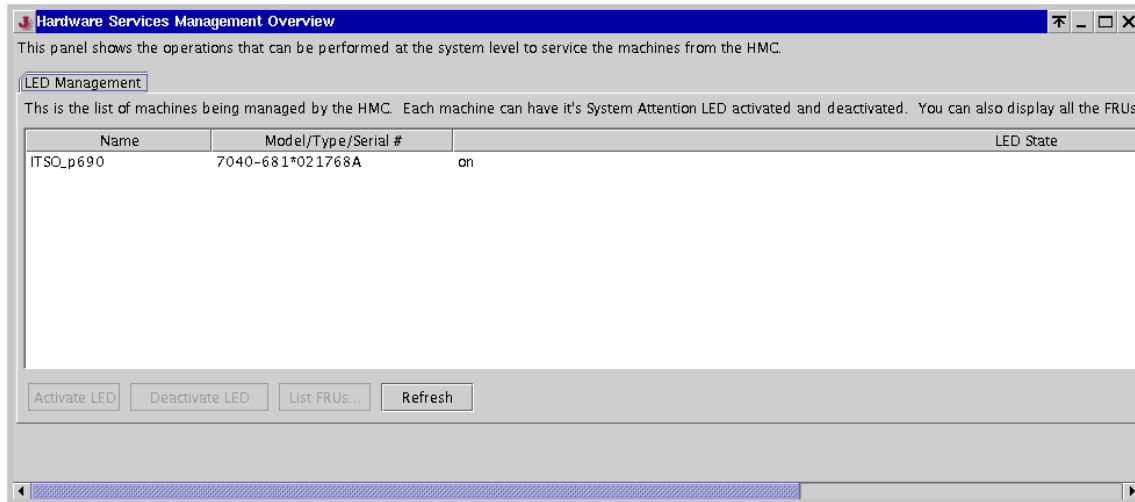

Figure 5-31 Hardware Service Functions overview
4. You will see the Hardware Service Management: Overview window, as shown in Figure 5-31. Select the managed system for which you want to check the LED state, then select the **List FRUs** button.